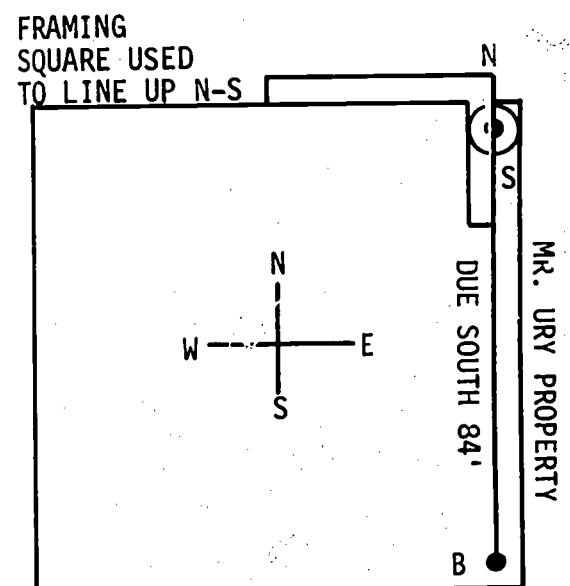

Fig. 7-6. Locating Point B
10. Place the direction circle over Point A, and measure 84' due south. *Each time you place the direction circle, use a framing square to make sure that north points due north.* See Fig. 7-6. Drive a nail at this point (Point B), Fig. 7-6.